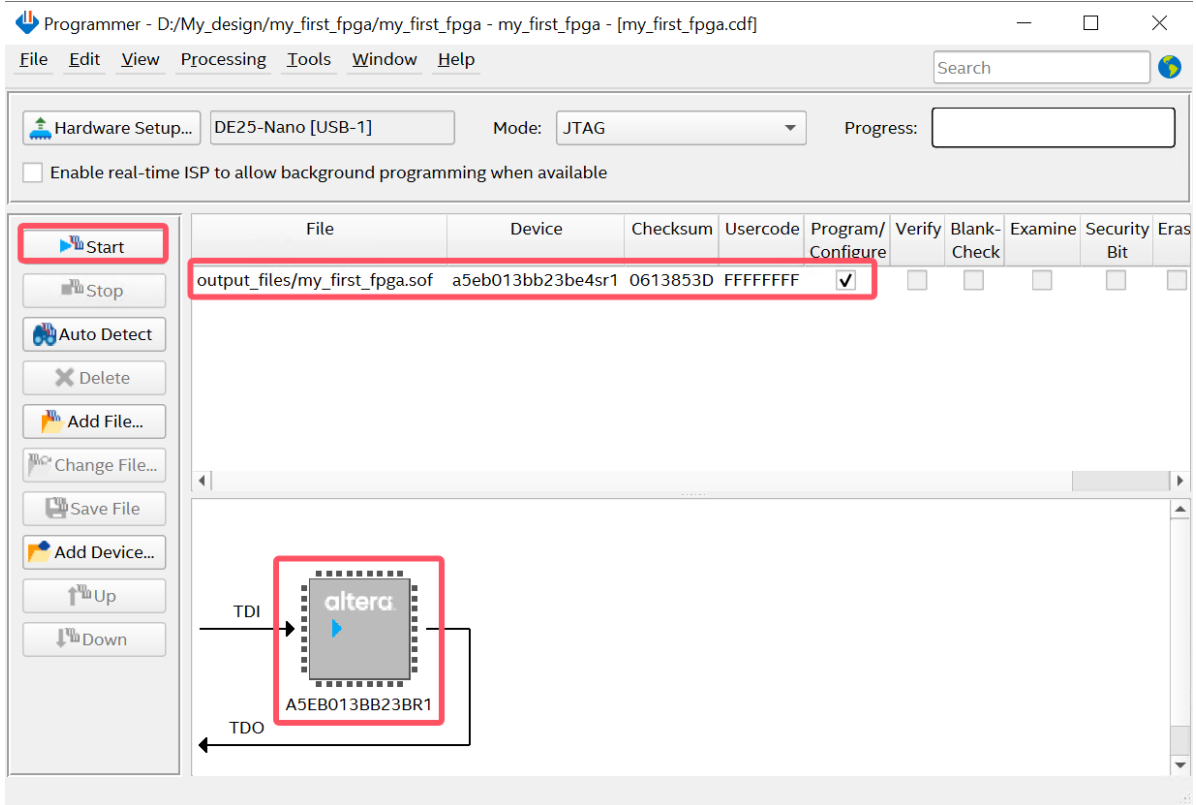
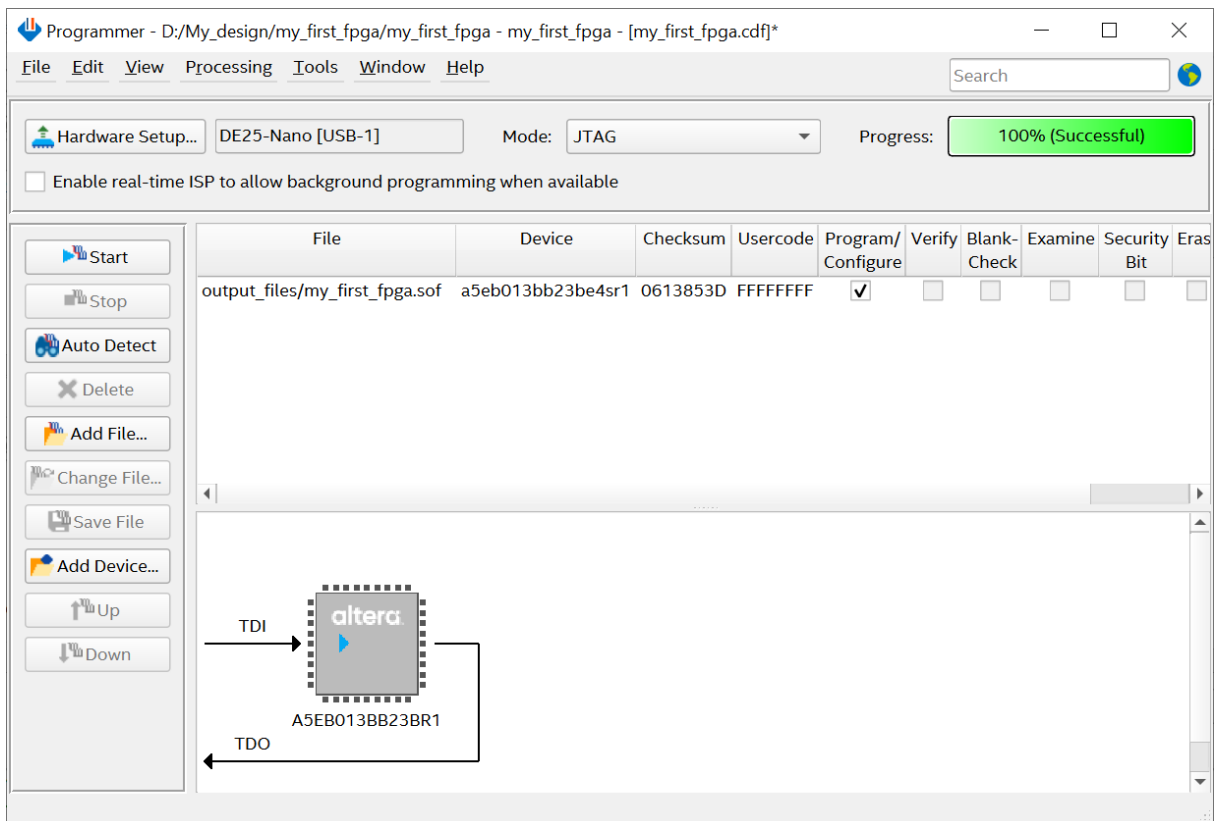

Figure 4-6 Download .sof file
Figure 4-7 Download .sof successfully
- As the FPGA device and the .sof file are default selected, you can click “Start” button directly to download .sof file into FPGA, as shown in Figure 4-6. The .sof file is download successfully as shown in Figure 4-7.